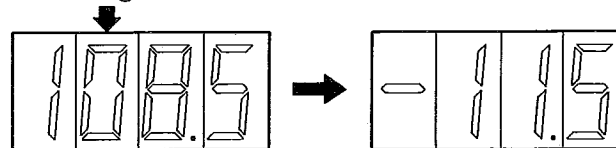

Fig. 4-3 Output level limits
- (a) Press the LEVEL key, the second of the four FUNCTION keys ⑳ , making the light in the key on. The OUTPUT LEVEL readout ⑫ remains to read the previous output level setting.
- (b) Press either of the DIGIT SELECTOR keys ⑩ . One of the digits on the OUTPUT LEVEL readout ⑫ will start to flash. This digit may then be altered with the MODIFY control ⑱ .
- (c) The flashing may be shifted to an adjoining digit with the DIGIT SELECTOR keys ⑩ ← or →.
- (d) Rotate the MODIFY control ⑱ to raise or lower the current digit reading. The digit will stop flashing.
The output level ranges from -17.9 to 132.0 dB for the dB EMF display and from -130.9 to 19.0 dBm for the dBm display. No matter how much the MODIFY control ⑱ is rotated, the display will not read outside these limits. For example, if the digit "8" in Fig. 4-3 is to be altered, rotating the MODIFY control ⑱ clockwise raises the reading to 131.5 dB but no further. Similarly, if the digit "0" in Fig. 4-3 is to be altered, rotating the MODIFY control ⑱ counterclockwise drops the reading only to -11.5 dB. (Note. The indication in the step next to 8.5 is -1.5 in lieu of -8.5, since the decrement is 10 dB in this case.)